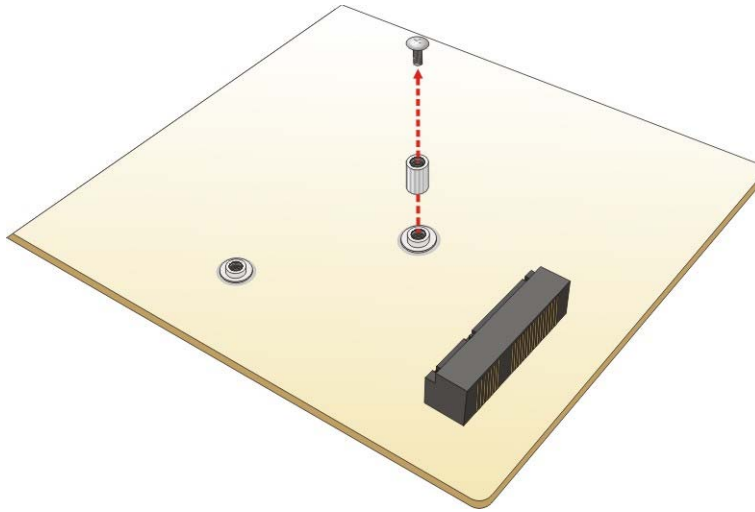

Figure 3-10: Removing the Retention Screw and Standoff
- Step 3:** To avoid interference of the board circuit, remove the retention screw and standoff for a half-size PCIe Mini card as shown in **Figure 3-10**.